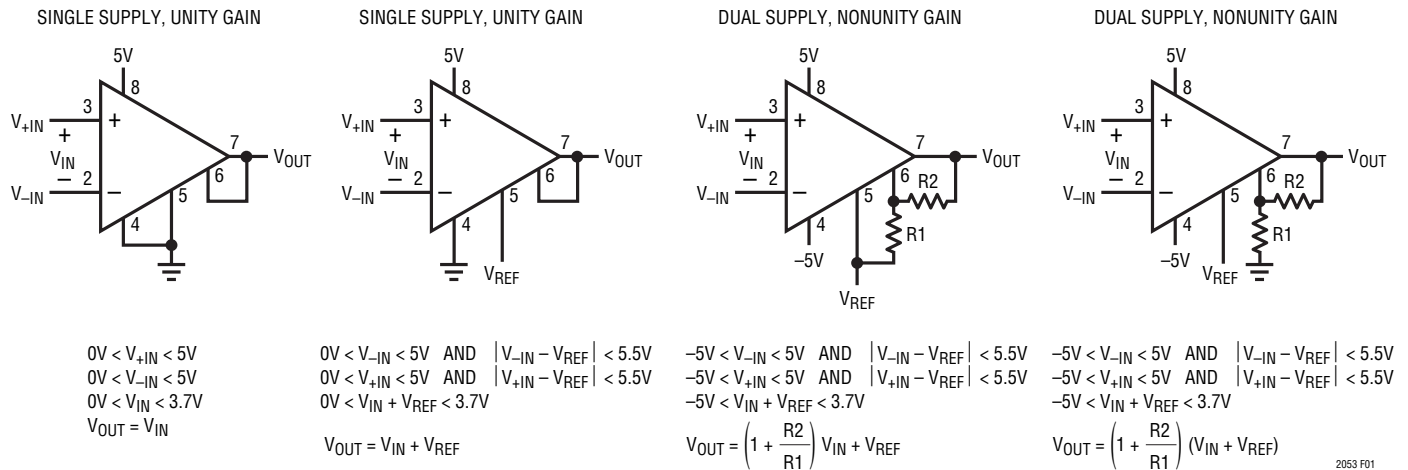

Figure 1
**RG (Pin 6):** Inverting Input of Internal Op Amp. See Figure 1.
**OUT (Pin 7):** Amplifier Output. See Figure 1.
|     |      | Replaced Figure 1                                         | 11          |